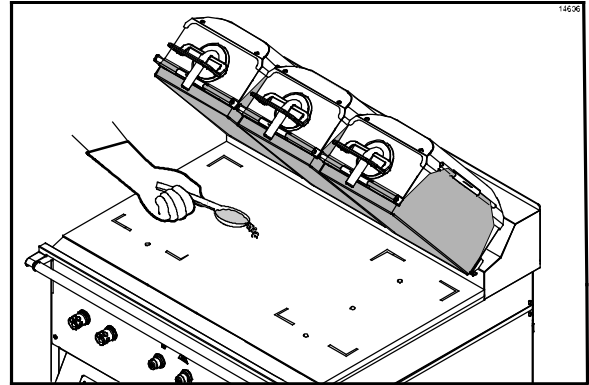

Figure 13
5. Using a sundae spoon, distribute two level spoonfuls of soy adherence flakes over a warm 3 ft. (1 m.) grill surface, allowing the flakes to melt. (See Figure 13.)